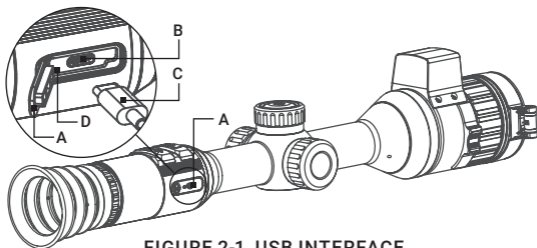

FIGURE 2-1. USB INTERFACE
1. Open the USB interface cover (Figure 2-1, A).
2. Connect the power adapter to the scope's interface port (B) using the USB cable (C).
3. Plug in the power adapter and charge the device. Icon  in the FOV of scope indicates the charging process. The green icon  means the battery is fully charged. The color LED (D) near USB port indicates the charging status. Charge the device for more than 6 hours before first use.